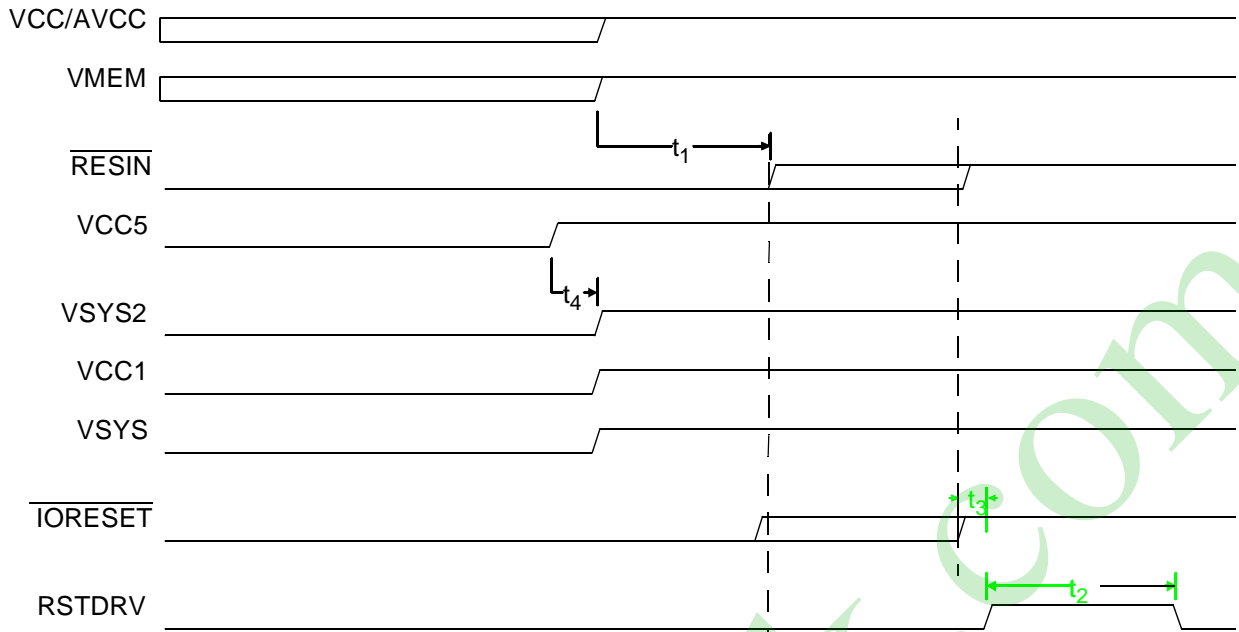

Figure 31. Power-Up Sequence Timing
**Table 37. Power Up Sequencing (See Figures 31, 32, 33, and 34)**